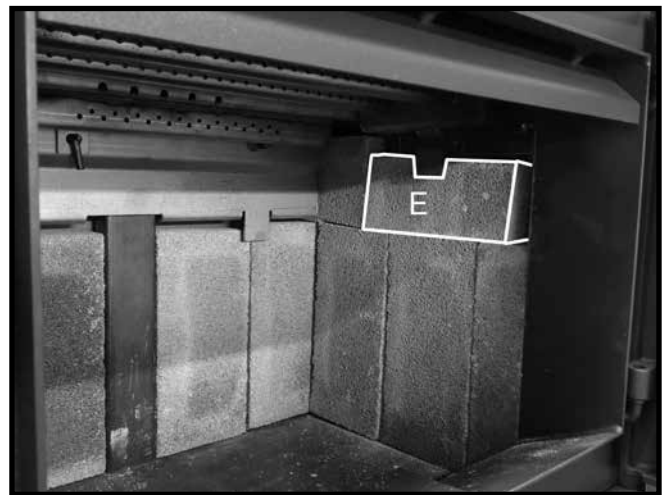

Figure 20: Final side wall firebrick in position.
4. Slide an "E" firebrick under the side wall brick rail tab and rest on top of the three previously placed side wall firebricks (Figure 20). Repeat steps 2-4 on the other side (Figure 20).